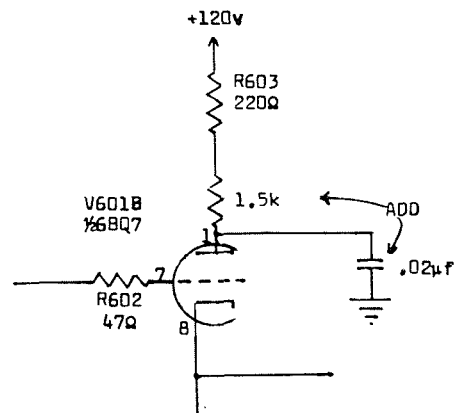

Figure 2. Type 524D/524AD Time-Mark Generator for serial numbers 1842 and below (partial schematic).
- Refer to Figure 2. Decouple the 120 v plate supply of V601B by adding a 1.5 k, 1 w, 10% composition resistor (Tek no. 304-152) and a 0.02 μ f, 600 v discap (Tek no. 283-006) as shown in Figure 2.